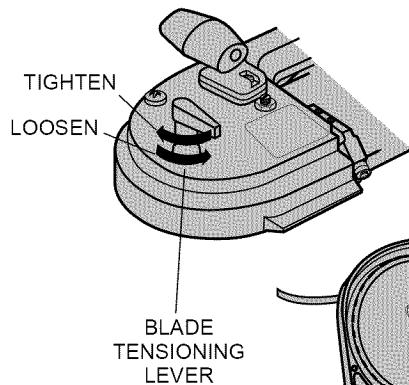

FIG. 3
3. Turn the saw over and place it on a workbench or table with the cord to the left, as shown in Figure 3.